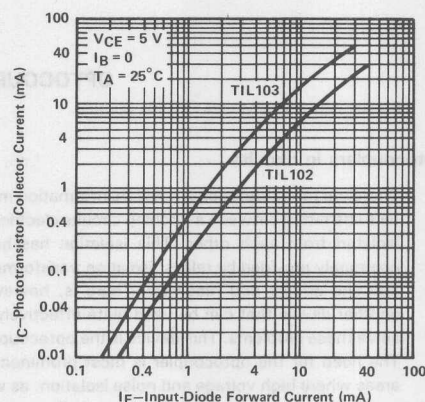

FIGURE 3. Typical Input/Output Current Relationship for the TIL102/TIL103
3. Current gain. The current gain (output current/input current) of an optocoupler is largely determined by the efficiency of the n-p-n sensor and by the type of transmission medium used. For the TIL103, the current gain is greater than unity, which in many cases eliminates the need for current amplifiers in the output. However, both the TIL102/TIL103 and TIL120/TIL121 have output current levels that are compatible with inputs of digital integrated circuits such as 54/74 TTL. Figures 3 and 4 show typical input-to-output current relationships.